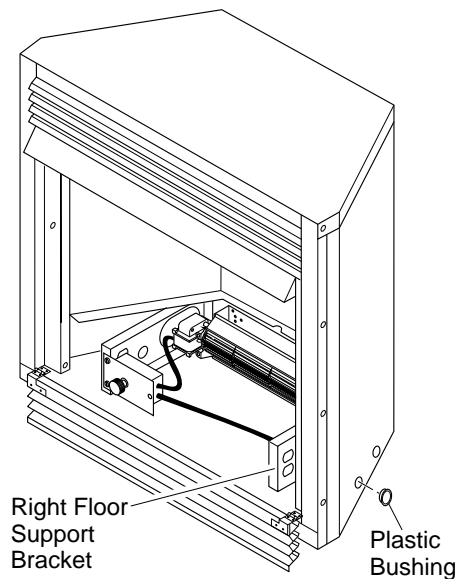

Figure 11 - Installing Plastic Bushing for Power Cord
- a. **If your fireplace system is installed as a freestanding unit with an accessory mantel**, determine whether the power cord will exit the left side or the right side of the firebox. Install 1 plastic bushing provided into the 1.5" hole in the floor support bracket on the exit side (see Figure 11). Install the second plastic bushing provided into the 1.5" hole in the outer casing through which the power cord will exit. Route power cord through both plastic bushings and plug the power cord into a properly grounded 3-prong wall receptacle near the firebox.